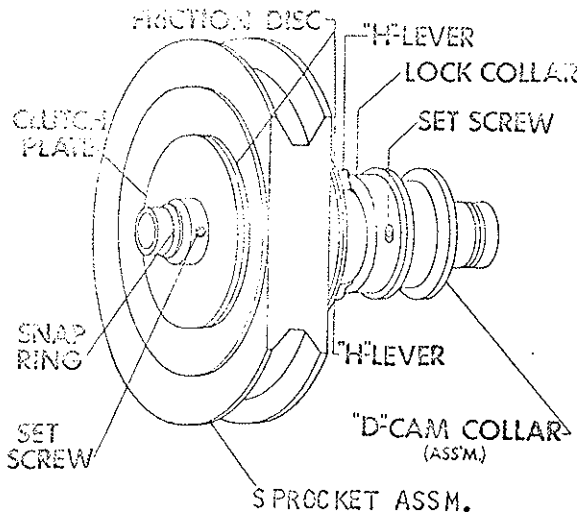

Fig. 4
1. Refer to Figure 4 and loosen the set screw on the lock collar. (Knurled). It may be necessary to insert a sharp bladed tool in slot, to pry lock collar apart to turn without difficulty for adjustment.